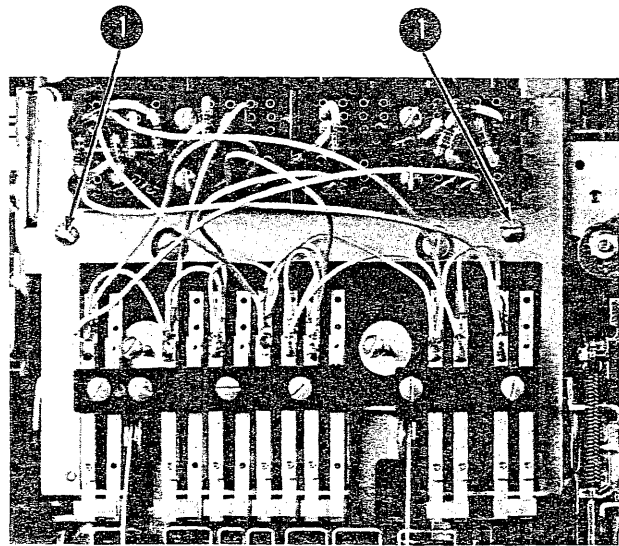

Figure 4-33. Selector-Bail Removal (Step 1)
1. Remove the two screws (No. 1, Figure 4-33) that hold the contact plate to the frame. Remove the contact plate, holding it to the front with a rubber band.